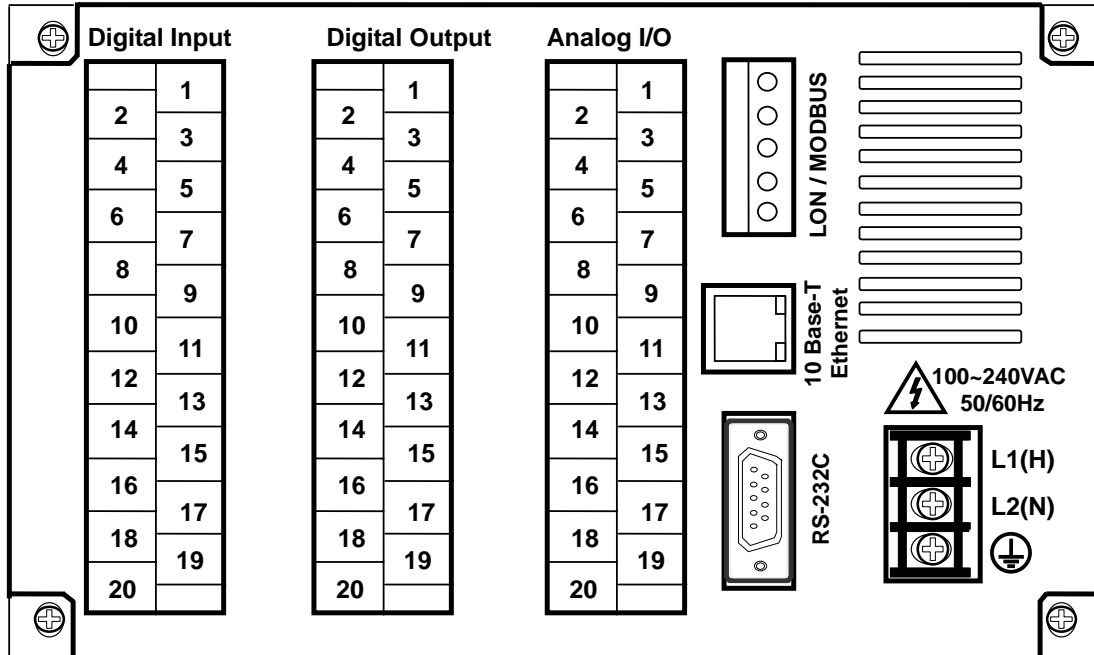

Fig. 2.8.1 Rear Terminal
1. **MODBUS** on Fig. 2.8.1 indicates the **OPTION** part. Models that do not select ModBus OPTION do not support ModBus communication.
2. **Ethernet** on Fig 2.8.1 indicates the **OPTION** part. Models that do not select Ethernet OPTION do not support Ethernet communication.